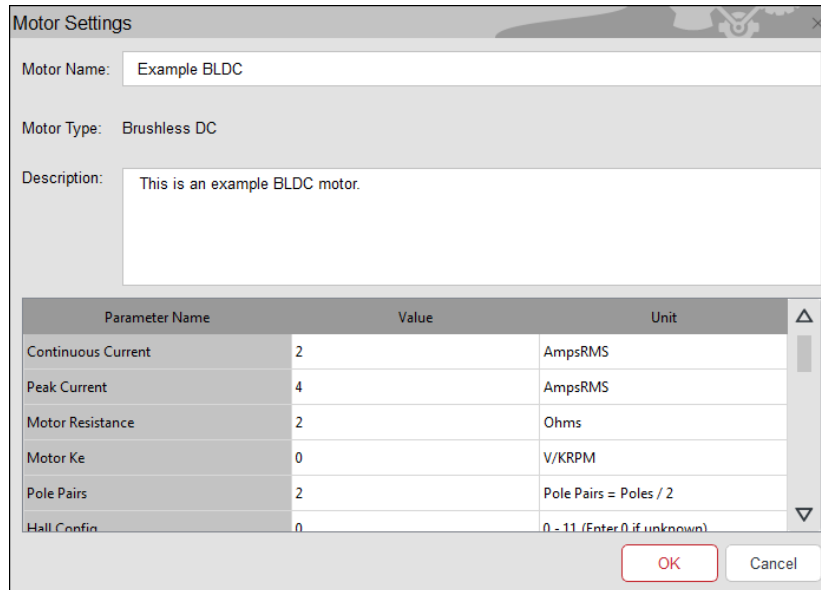

Figure 63: Motor Settings Window
- The Motor settings window will appear in which all motor parameters need to be entered (for unknown parameter values, follow the suggestions specified next to each unit) as shown in Figure 63 and click **OK**.